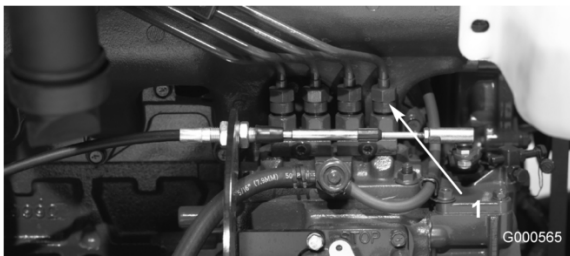

Figure 37
1. Loosen the pipe connection to the No. 1 injector nozzle and holder assembly at the injection pump (Figure 37).